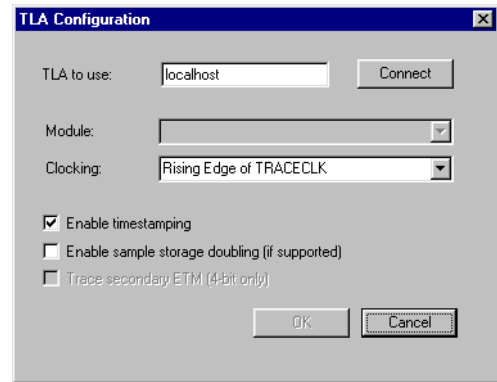

Figure B-22 Dragonfly TLA Configuration dialog box
12. Click on **Configure...** to display the Dragonfly trace capture configuration dialog box (Figure B-22).